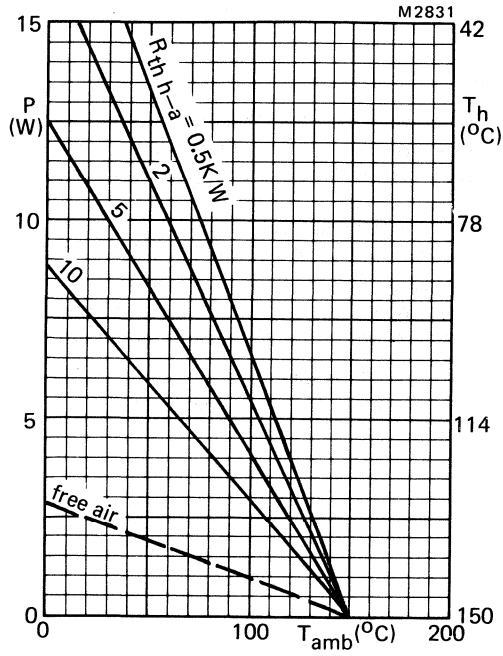
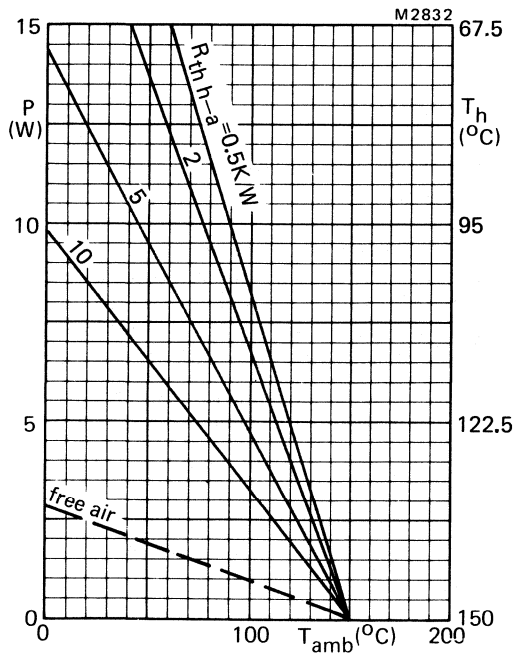

Fig. 7 Heatsink rating; without heatsink compound.
Fig. 8 Heatsink rating; with heatsink compound.
Having determined the power (P), use Fig. 7 (if heatsink compound is not being used) or Fig. 8 (if heatsink compound is being used) to determine the heatsink size and corresponding maximum ambient and heatsink temperatures.